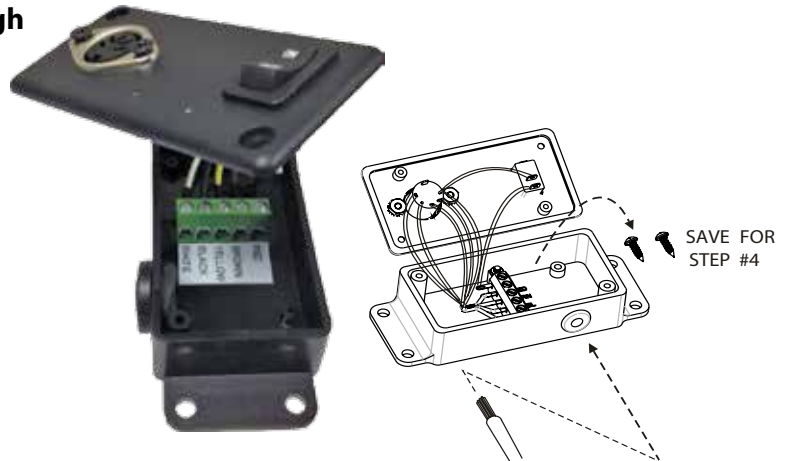

Figure 25-1
3. Open the enclosure and insert the wires through the grommet. Pull enough wire through to be able to manipulate the ends. (Save screws to seal the enclosure at the end.) [Figure 25-1]